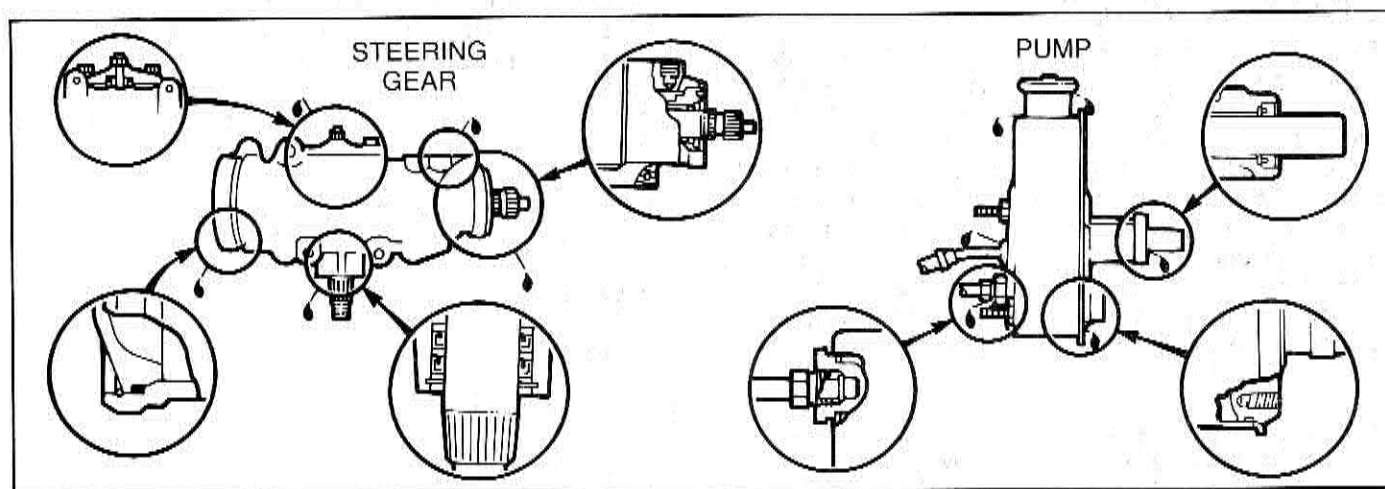

Figure 3-8 — Power Steering Pump Gear Box Leak Points
4. Find the exact area of leakage. Potential leak points are shown in Figure 3-8.